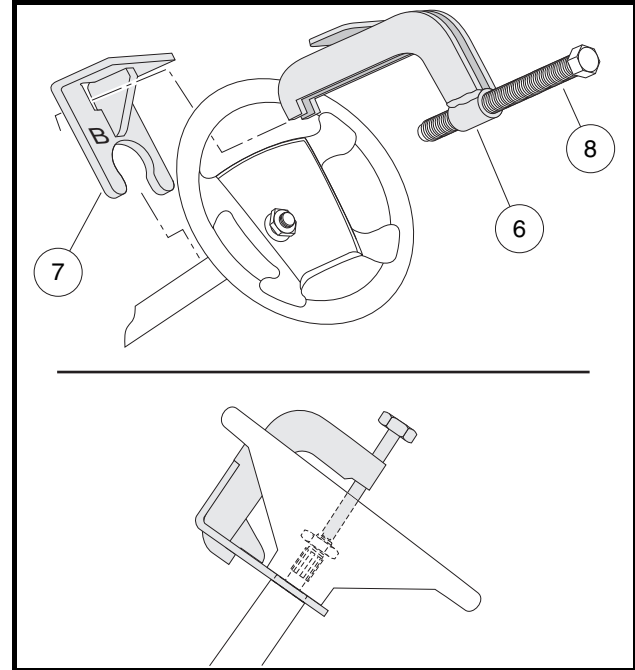

Figure 7-2 Steering Wheel Puller
- 5.1. Place the puller anvil (6) through the top opening of the steering wheel (**Figure 7-2, Page 7-2**).